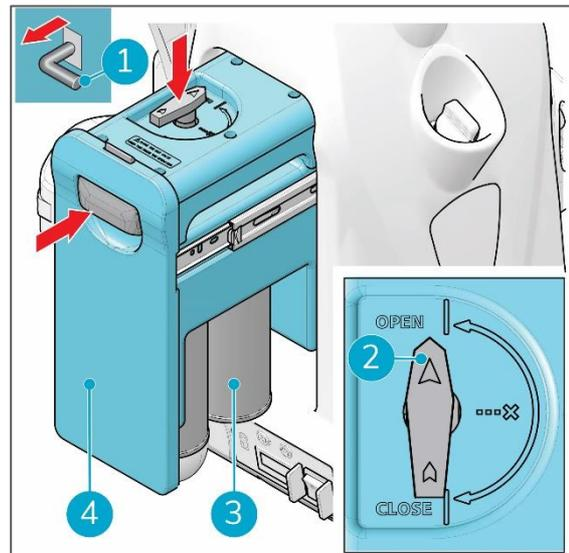

Figure 20
- pull the safety pin at the back of the i-gum® (Figure 20, pos 1);
- pull the gas cartridge holder (Figure 20, pos 4) at the same time.
4. Turn on the gas valve (Figure 20, pos 2).
- close the gas cartridge holder (Figure 20, pos 4) at the same time.